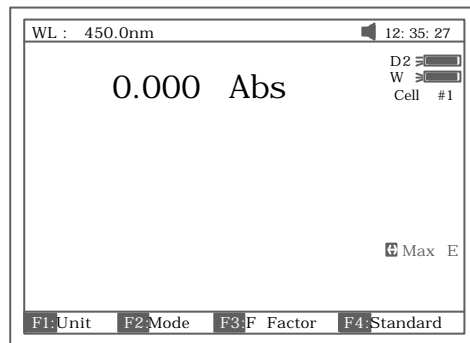

Fig 12
- ✧ Press **【ENTER】** to change the wavelength from 656.1nm to 450.0nm, and then blank; after blanking, the screen displays as Fig 12.